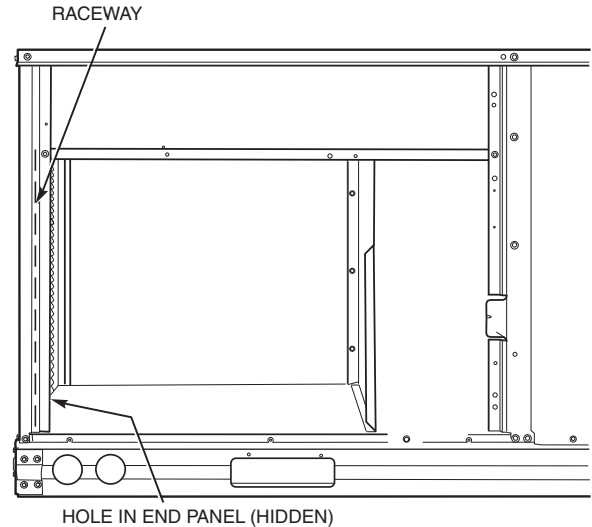

Fig. 54 — Field Control Wiring Raceway (090-150 Only)
Unit Without Thru-Base Connection Kit — Pass the thermostat control wires through the hole provided in the corner post; then feed the wires through the raceway built into the corner post to the control box. Pull the wires over to the terminal strip on the upper-left corner of the Controls Connection Board. See Fig. 54.
- Feed wires through the raceway built into the corner post (see Fig. 54) to the 24-v barrier located on the left side of the control box. The raceway provides the UL-required clearance between high-voltage and low-voltage wiring.